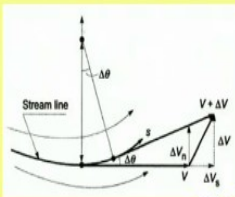

Fig.5
- In the natural co-ordinate system, viz., along and across a streamline (Fig. 5).
So, acceleration first thing to that you already know is a vector. In natural coordinate system, that is, we describe the acceleration along and across the stream line that we are going to see. Suppose, this is a streamline here, this in figure 5, let me take the laser pointer here. So, this is a streamline and this is a direction s and this is the velocity v direction here and this is the S